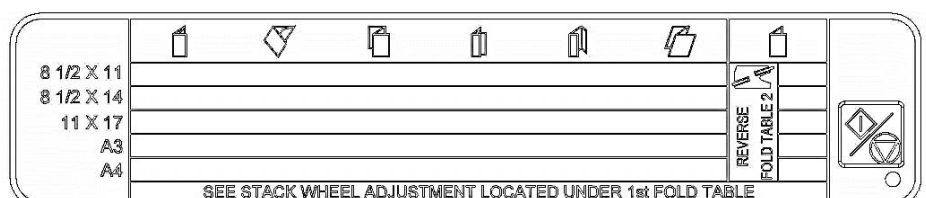

Fig. 13
6. Press and release the Run icon (green button) to initiate folding. The folder will now start running and process the stack of paper. The folder will automatically turn off when the paper runs out. The Run button is located in the lower-right corner of the Button Panel (See Figure 13).